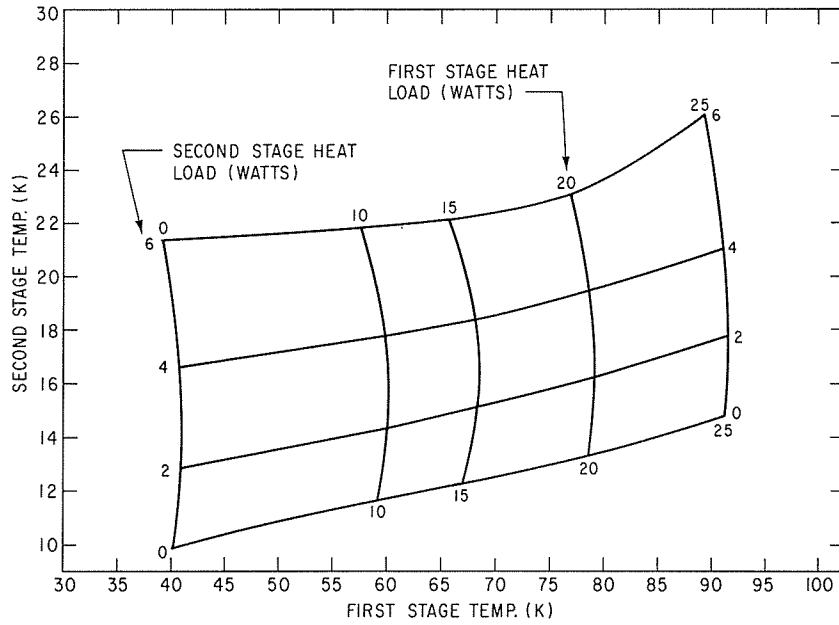

FIGURE 1-4. TYPICAL REFRIGERATION CAPACITY OF THE MODEL 350C CRYODYNE(R) CRYOCOOLER (60 HERTZ)
<p>Figures 1-4 and 1-5 are graphs showing typical refrigeration capacities (at 60 Hz and 50 Hz respectively) of the Model 350C CRYODYNE(R) Cryocooler.</p>